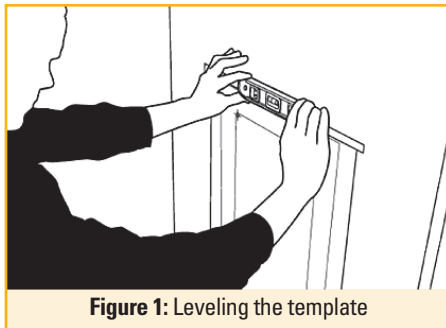

Figure 1: Leveling the template
1. Tape the provided template to the door. The top edge of the cut-out line should be 1-1/4 inch (or more) above the dog's withers (shoulders) for the single flap door mount, and 2 inches for the double flap door mount. Be careful not to unduly reduce the strength of the door by cutting too close to the bottom of the door. Level the top edge of the cut-out line as shown in Figure 1.